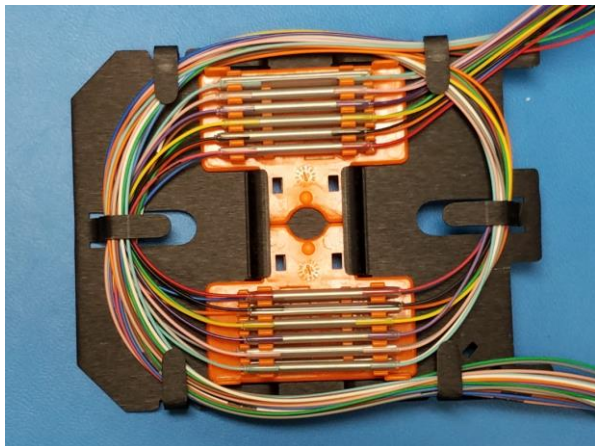

Figure 12
**4.6** Carefully working away from each splice sleeve exit, route all trunk fibers counter clockwise and all pigtail fibers clockwise under the retention organizers as shown in **Figure 12**. There will be remaining slack on all pigtail fibers at the completion of this step. (**Figure 13**).